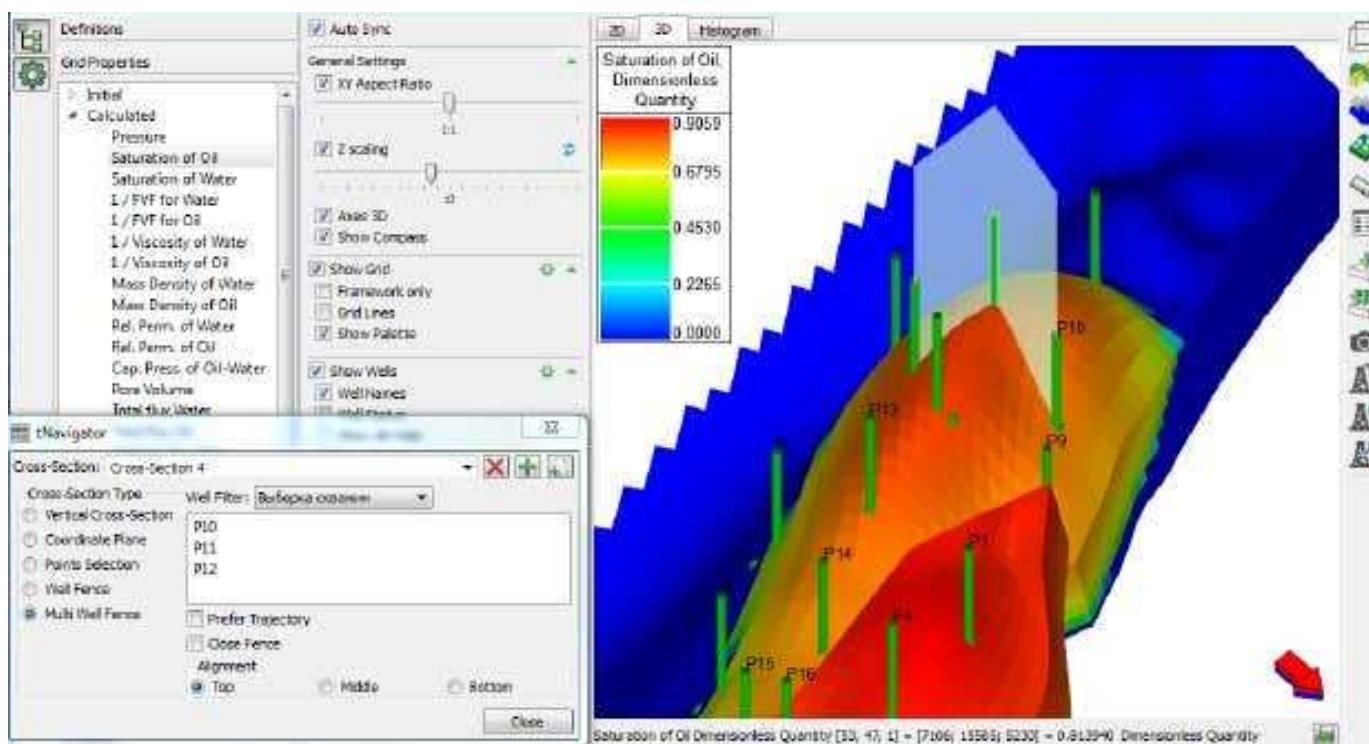

Figure 34. A Multi Well Fence.
3. Select the wells based on which the fence will be created (you can select wells from **Well Filters** or from **Well Selection** – figure 34) in the drop-down menu.